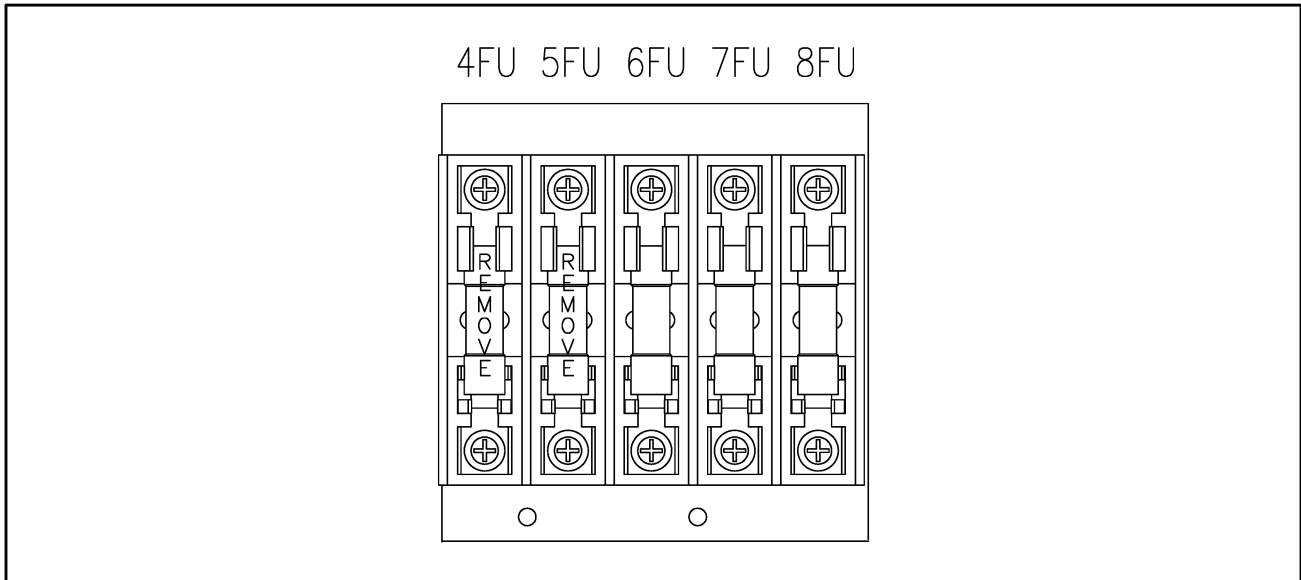

Figure 1 - FlexPak 3000 CCT Transformer Input Fuse Locations
- Step 3. Remove fuses 4FU and 5FU from the fuse block. For 3-60 HP drives, the fuse block is mounted at the top left of the drive. For 75-150 HP drives, the block is at the top right. Figure 1 shows the locations of fuses 4FU and 5FU within the fuse block.